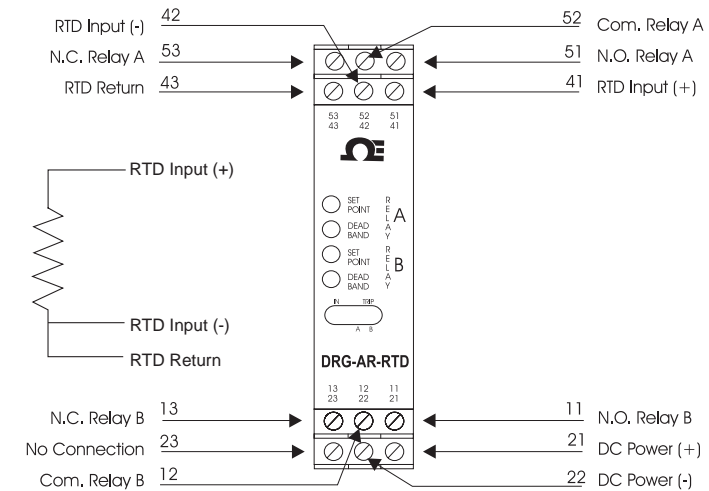

Figure 6: Wiring Diagram for DRG-AR-RTD
1. After configuring the DIP switches, connect the input to a calibrated RTD source or a resistance decade box and apply power. (Figure 6).